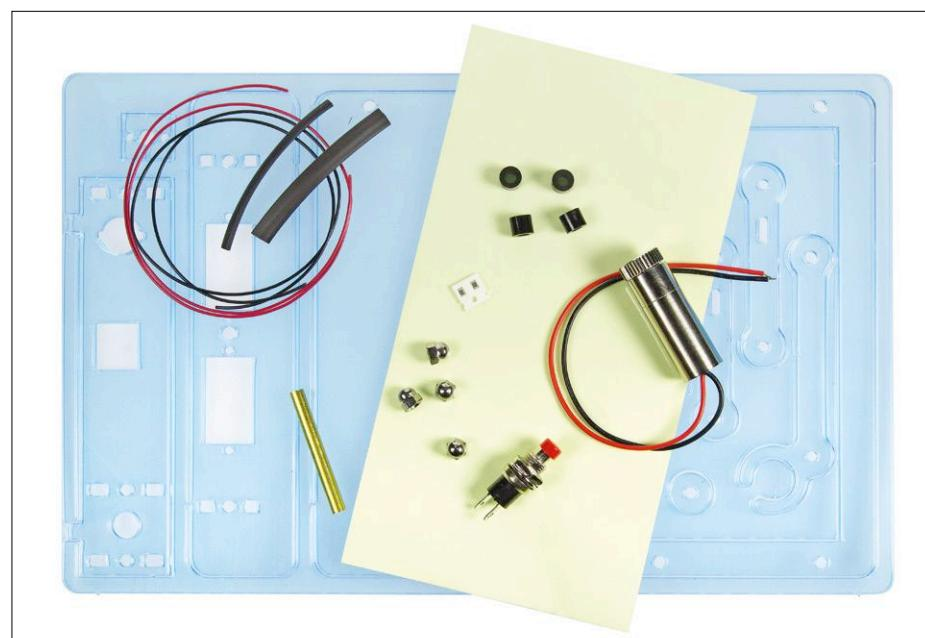

Figure 2. The contents of the upgrade kit.
**Figure 2** gives an impression of contents of the upgrade kit.